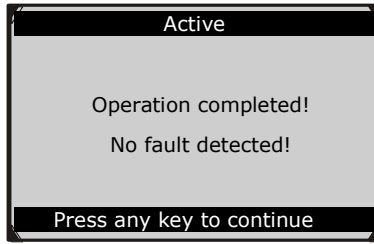

Figure 8.23
- 2) In the Active menu, use the **UP/DOWN** button to select the desired actuator to begin test. If the selected actuator works correctly, the tool will display a confirmation message as below (*Figure 8.23*). Otherwise, it will display a message to remind user of a problem. After you exit the diagnosis program, please repair the problem immediately.